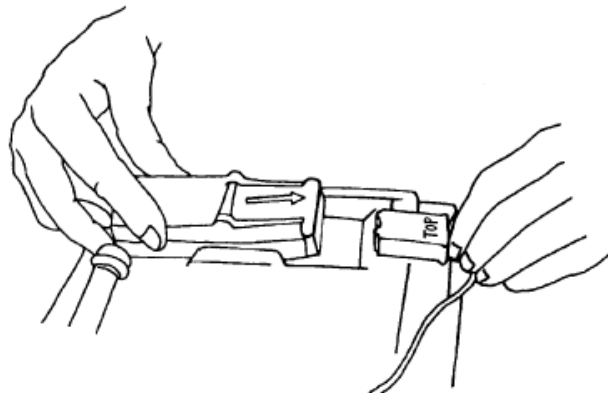

Figure 20-2: Placing the optical module into the catheter tray
4. Open the end of the optical module by pulling straight out in the direction of the arrow (refer to *Figure 20-2*). The monitor will display an INSUFFICIENT LIGHT message.